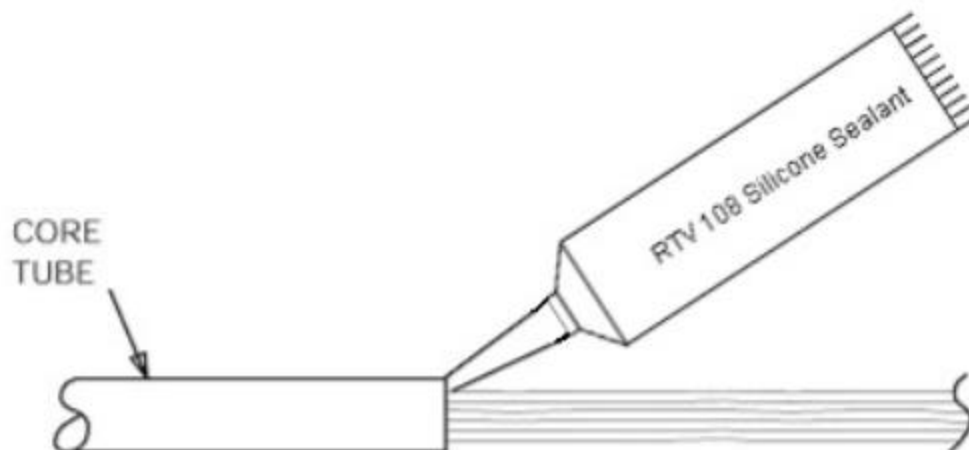

Figure 1 – Inject about 2 inches of sealant into the core tube.
4. Insert the nozzle into the core tube and inject about 2 inches of sealant inside the core tube (Figure 1). Apply the sealant completely around the fibers or ribbon stack and form a bead of sealant at the outside edge of the core tube. The sealant will obtain a tack-free cure in about 20 minutes and a full cure in 24 hours.